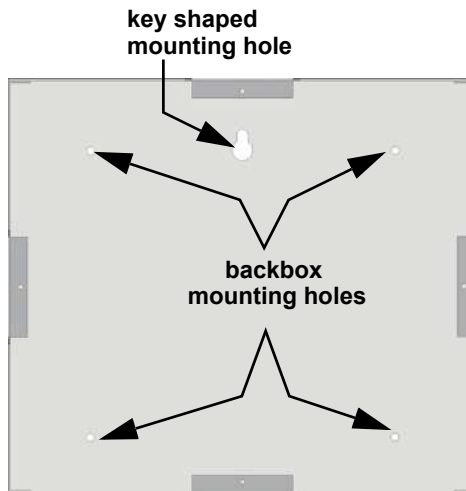

Figure 4.15 Backbox Surface Mount Holes
2. To properly mount the backbox, insert a single screw into the key shaped mounting hole. Do not tighten all the way. See Figure 4.15. Place a level on top of the backbox, with the backbox level insert the rest of the mounting screws.